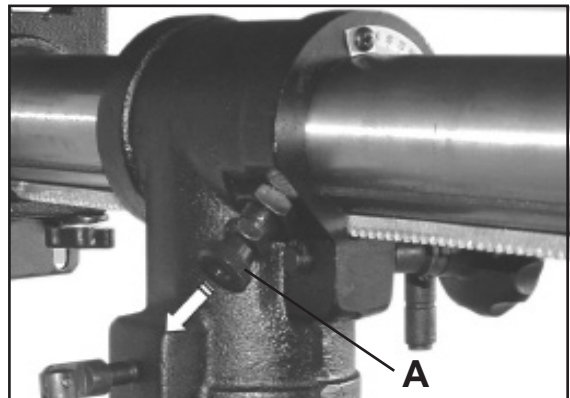

Figure 18
2. Pull the guide pin out on the left side of the drill press head (A-Fig.18) and rotate 90°. The head may be tilted to the desired angle.